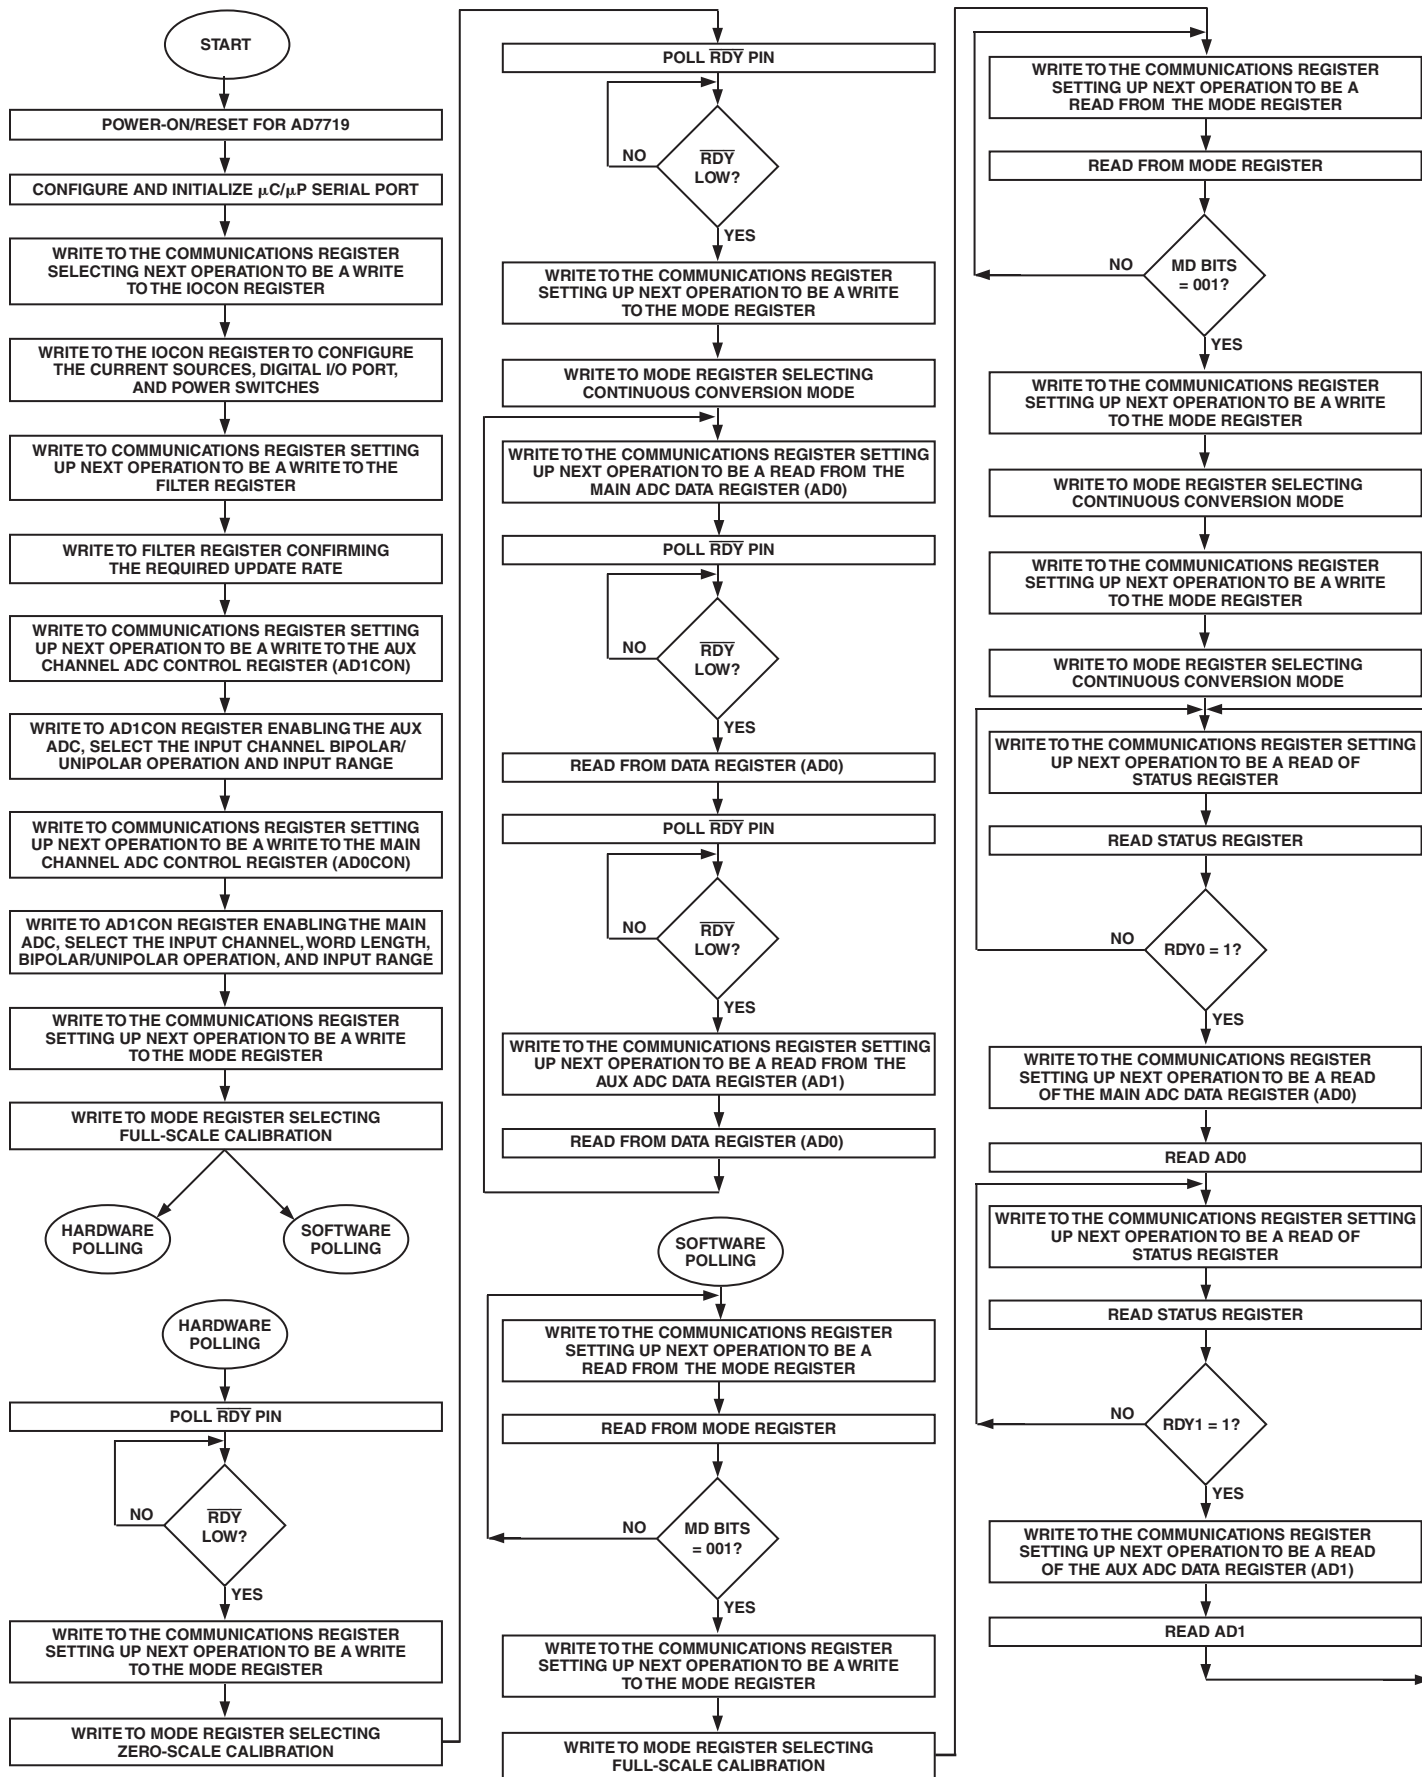
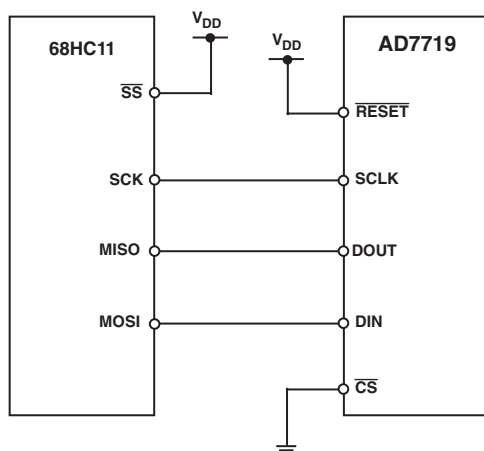

Figure 11. Flowchart for Initializing, Calibrating, and Reading Data from the AD7719 Main and Aux Channels
Figure 12. AD7719-to-68HC11 Interface
Figure 11 outlines a flow diagram of the sequence used to configure all registers after a power-up or reset on the AD7719. The flowchart shows two methods of determining when it is valid to read the data register or determine when a calibration cycle is complete. The first method is hardware polling of the $\overline{\text{RDY}}$ pin and the second method involves software interrogation of bits in the status and mode registers. The flowchart details all the necessary programming steps required to initialize the ADC and read data from the main and aux channel following a power-on or reset. The steps can be broken down as follows:
3. When the operating mode is selected, the user needs to determine when it is valid to read the data in conversion mode or when the calibration is complete in calibration mode. This is accomplished either by polling the $\overline{\text{RDY}}$ pin (hardware polling) or by interrogating the bits in either the Status or Mode registers (software polling). Both are shown in Figure 11. It is assumed that both the main and aux ADCs are being used and calibration is required. If the AD7719 is operated at the factory-calibrated conditions, a field calibration will not be required and these steps can be bypassed.
The AD7719's flexible serial interface allows for easy interface to most microcomputers and microprocessors. The flowchart of Figure 11 outlines the sequence that should be followed when interfacing a microcontroller or microprocessor to the AD7719. Figures 12, 13, and 14 show some typical interface circuits.
Figure 12 shows an interface between the AD7719 and the 68HC11 microcontroller. The diagram shows the minimum (3-wire) interface with \overline{CS} on the AD7719 hardwired low. In this scheme, the RDY bits of the Status register are monitored to determine when the Data register is updated. RDY0 indicates the status of the main ADC channel while RDY1 indicates the status of the aux channel. An alternative scheme, which increases the number of interface lines to four, is to monitor the \overline{RDY} output line from the AD7719. The monitoring of the \overline{RDY} line can be done in two ways. First, \overline{RDY} can be connected to one of the 68HC11's port bits (such as PC0), which is configured as an input. This port bit is then polled to determine the status of \overline{RDY} . The second scheme is to use an interrupt driven system, in which case the \overline{RDY} output is connected to the IRQ input of the 68HC11. For interfaces that require control of the \overline{CS} input on the AD7719, one of the port bits of the 68HC11 (such as PC1) that is configured as an output, can be used to drive the \overline{CS} input.